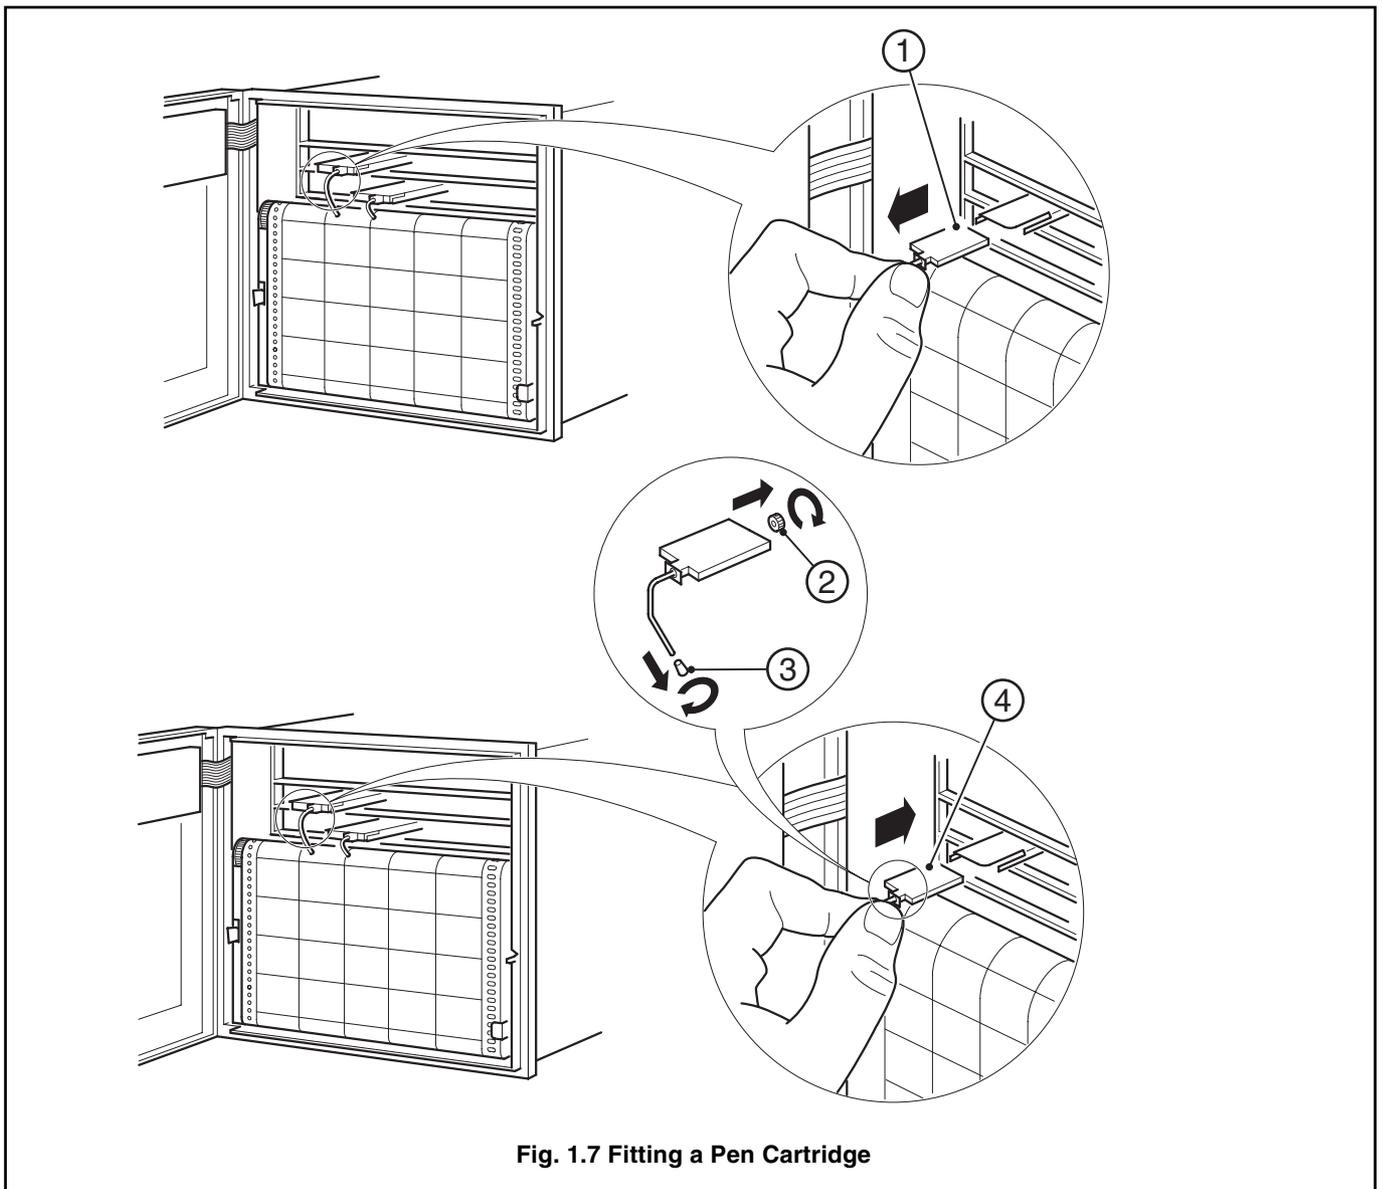

Fig. 1.7 Fitting a Pen Cartridge
1.5.4 Fitting a Pen Cartridge – Fig. 1.7
Ensure that the instrument is switched on and operate the  key to raise the pens. Referring to Fig. 1.7: